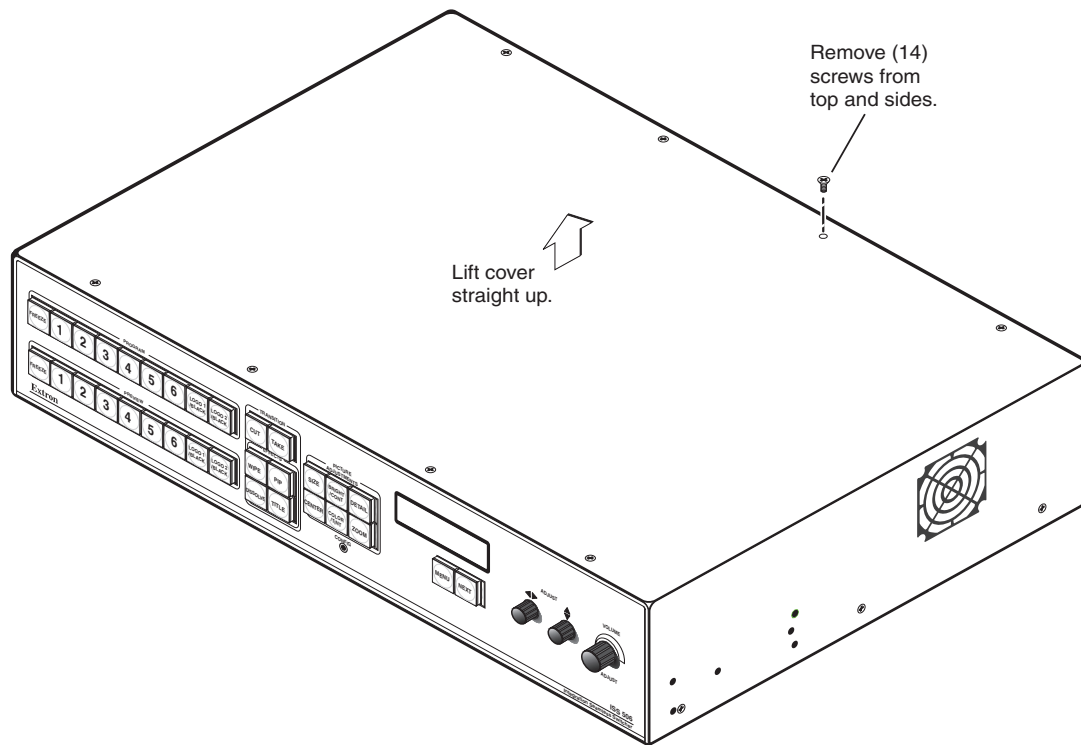

Figure 1 — Removing the ISS cover
3. Remove the 14 screws, 8 on the top and 3 on each side of the ISS cover (figure 1).